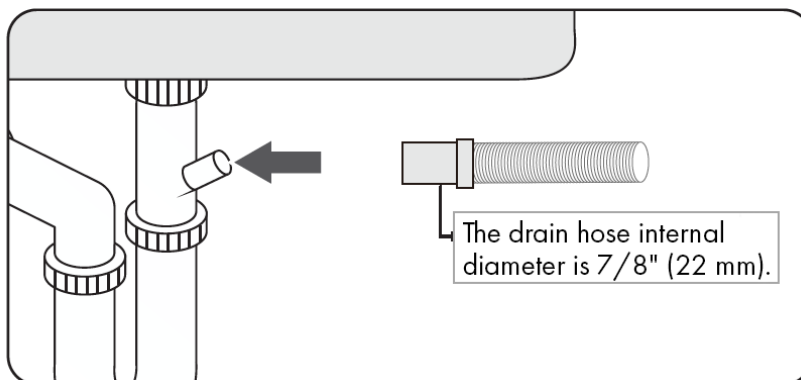

Figure 13
3. Check the size of the sink's drain hose connector ($7/8"$ / 22 mm) — as shown in Figure 13 on the next page). If the end of the drain hose does not fit onto the drain hose connector of the sink, use an adapter purchasable at a plumbing/hardware supply store.